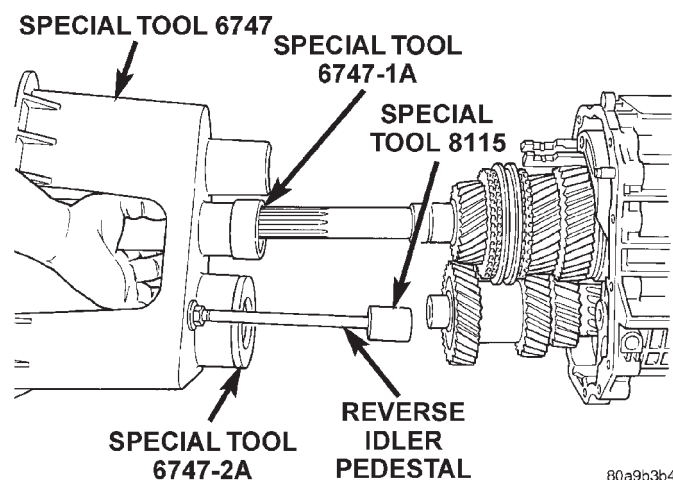

Fig. 27 Installing Assembly Fixture On Geartrain
- (9) Remove the front reverse idler shaft bolt.
- (10) Loosen rear reverse idler shaft bolt.
- (11) Remove reverse idler shaft support segment by sliding it straight out of housing.
- (12) Support geartrain and rear housing on Assembly Fixture Tool 6747 as follows:
- (c) Slide fixture tool onto input shaft, countershaft and idler gear (Fig. 27).